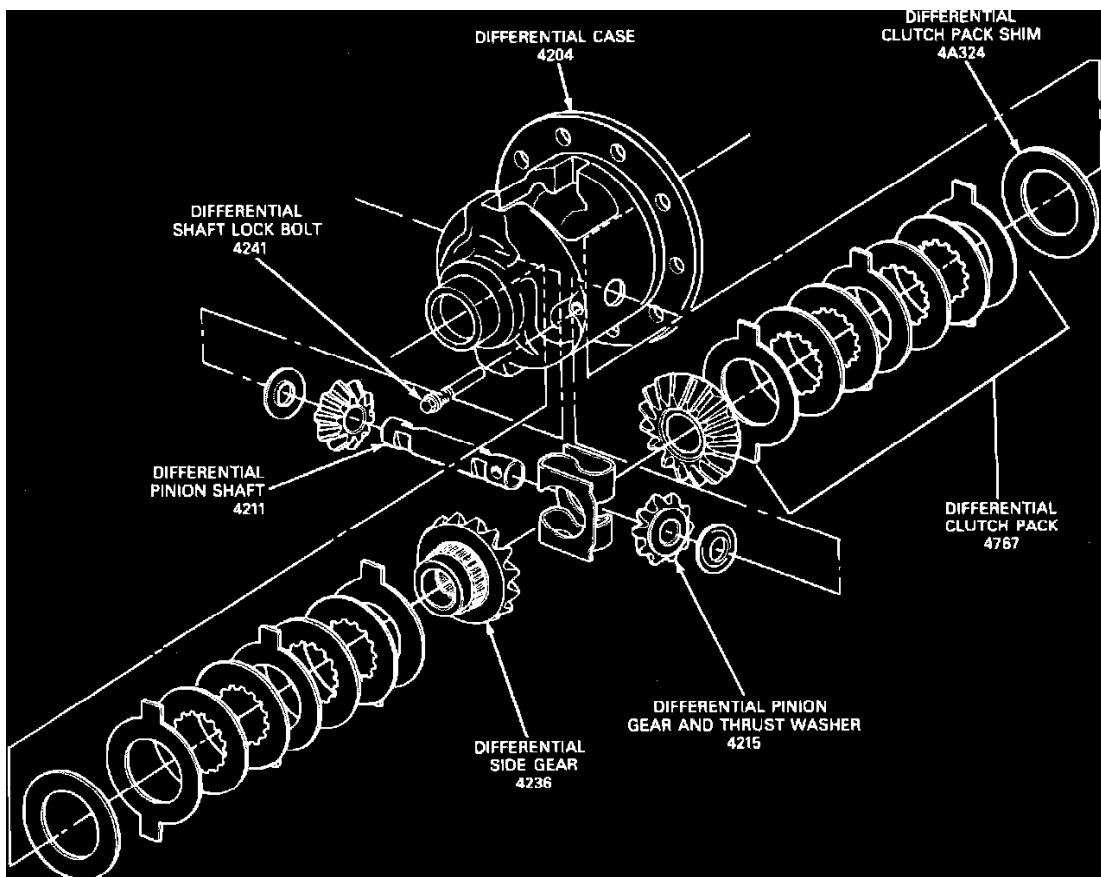

Fig. 9 Ford Traction-Lok locking differential exploded view
5. Remove left and right side gears, clutch packs and shims, **Fig. 9**. Note order of removal for reference during assembly.